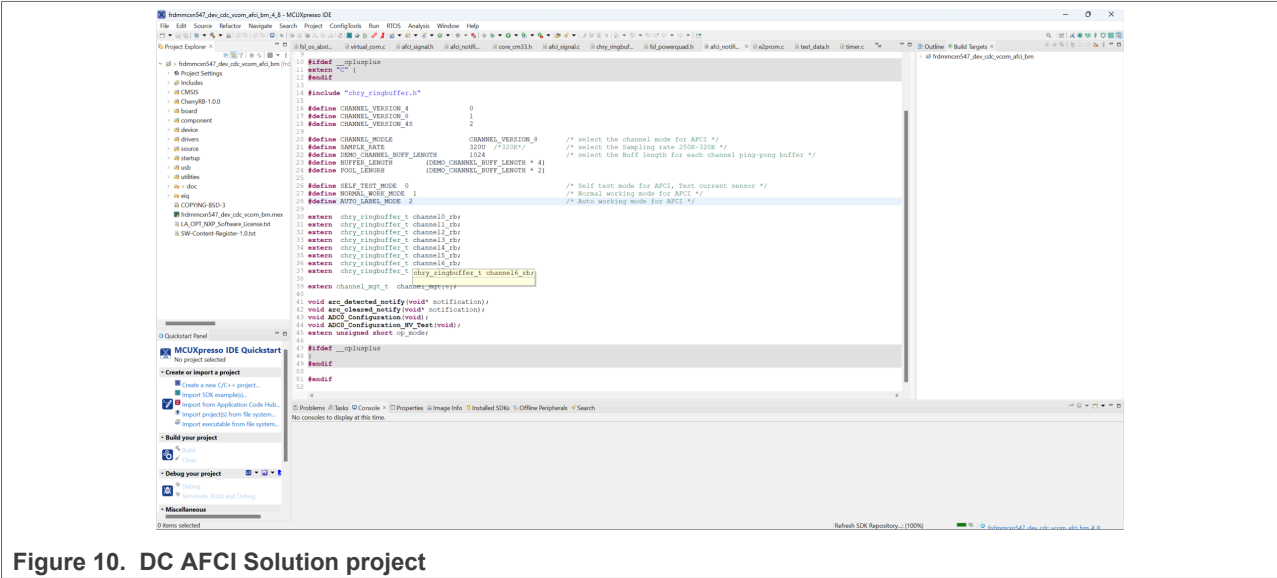

Figure 10. DC AFCI Solution project
4. Compile the project and download the code, as shown in Figure 10.